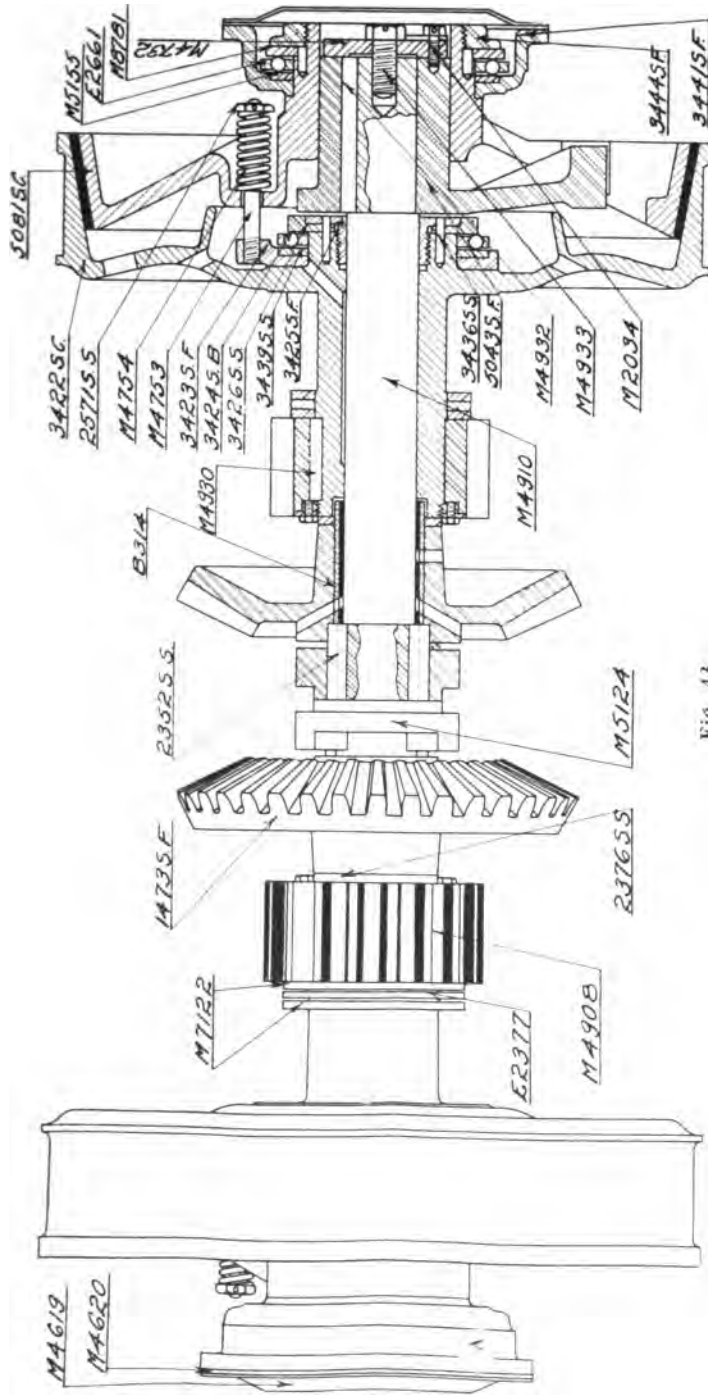

Fig. 43
*If all gears are in neutral it is not possible to shift directly into reverse until the direct or low gears have been engaged first. Refer to Fig. 43. Pressing the shifting lever to the right or the left engages the double clutch M5124 with 1473SF right or 1473SF left. Drawing the shifting lever forward engages the direct gear and backwards engages the low. To shift the double clutch M1524 from one side to the other and to secure mesh, it is necessary that the bevel pinion 1472SS revolve the gears 1472SF.*
**253** — Fig. 43 shows the steering clutch assembly for the "Caterpillar" 45 Tractor. The steering shaft assembly receives power from 1472SS bevel gear, as shown in Fig. 39. The power is then transmitted through the bevel gears 1473SF to the double clutch M5124. The double clutch M5124 slides over two feather keys 2352SS, and in this way transmits the power to the shaft M4910. The friction driver 5043SF is keyed onto the shaft M4910 by the taper key M4932. The friction driver 5043SF has three arms which engage the male friction 5081SC and the male friction has six springs in sets of twos that force the male friction into contact with the female friction 3422SC. The driving power then extends continuously from the bevel gear 1479SF to the female friction 3422SC. One of the two bevel gears 1473SF drives the steering shaft assembly in reverse direction. To steer the tractor the male friction 5081SC is forced from contact with the female friction 3422SC.
**254** — Refer to Fig. 42, which shows the steering lever, steering shaft assembly and track drive sprocket assembly in place. When the hand lever is operated to steer the tractor to the right or left, the motion is transmitted through the two shifter rods which run from one side of the steering shaft assembly to the other on top of the transmission. The shifter rod forces the shifting fork (E2643, Fig. 42) and its attached bronze collar against the shifter collar 3441SF, Fig. 43, which in turn releases the male friction 5081SC from driving the female friction 3422SC and thus releases one of the tracks from driving ahead. A brake operated by the foot can exert pressure to stop the female friction 3422SF from turning, thus facilitating short turning.
The thrust produced by throwing out the clutch with the shifter fork is taken care of by the ball thrust assembly M5155, E2661 and M8781, Fig. 43. This part should always contain transmission oil, as explained in the paragraph on lubrication of steering shaft assembly.
The ball thrust assembly M5155, E2661, M8781 are contained within the shifter collar 3441SF, which collar is made oil tight by a felt washer M4620 and the sheet iron cover M4619, as shown in Fig. 43. At the left hand side of Fig. 43 is shown the countersunk screw, which permits admission of oil to the ball thrust assembly.
**CAUTION:** This countersunk screw may be located as shown in Fig. 43, or may be under the bronze collar on the shifter collar 3441SF. Fig. 42 shows the position of this oil hole as well.